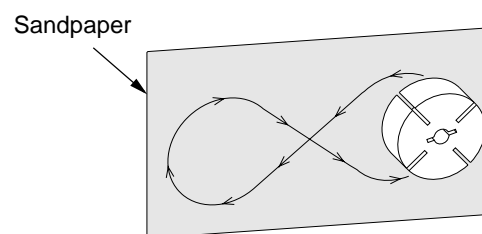

Figure 31 - Sanding Rotor
14. Place fine grade sandpaper (600 grit) on flat surface. Sand rotor lightly in "figure 8" motion four times (see Figure 31).